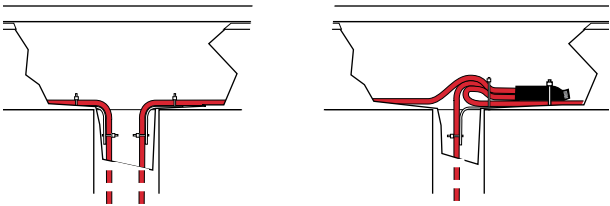
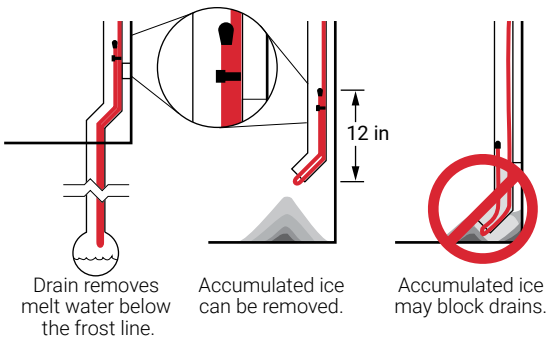

Figure 15: Heating cable at top of downspout
Figure 16: Heating cable at bottom of downspout
- External downspouts and scuppers must be treated carefully. A path must be provided for the valley/perimeter heating cable to the point of discharge (see Figure 15 on page 28).
Ice may form in downspouts and prevent melt water from escaping from the roof. To maintain a continuous path for melt water to run off, run the heating cable inside the downspout to the end as shown in Figure 15 and Figure 16 below. Follow the appropriate attachment recommendations in "Attachment Methods", page 30. Additional heating cable may be needed for the roof surface, gutters, and valleys.